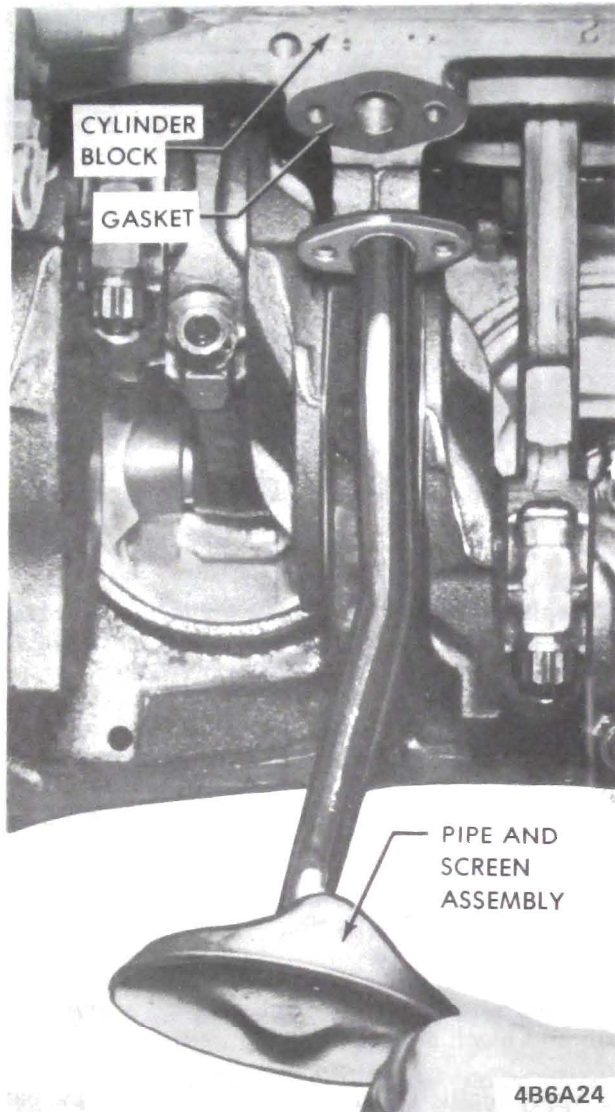

Figure 6A-73 - Oil Pickup Pipe and Screen
2. Use new gasket and tighten bolts to 8 lb. ft. torque. See Figure 6A-73.